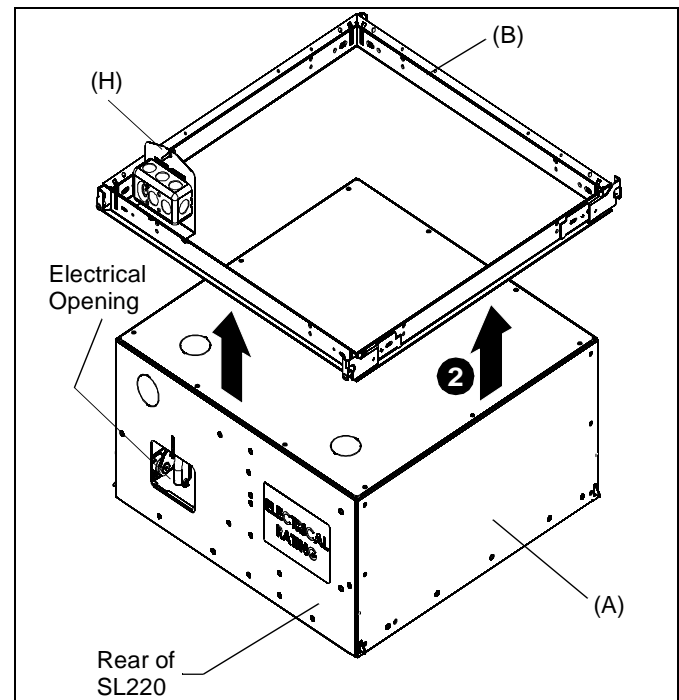

Figure 16
1. Orient SL220 so that the rear of the SL220 (with the electrical opening) lines up with the outlet box attachment plate (H) on the SL220 frame. (See Figure 16)
2. Lift SL220 (A) into place through the SL220 frame (B). (See Figure 16) Ensure that there are four audible clicks---each corner hook "clicking" into place onto the frame. (See Figure 17)